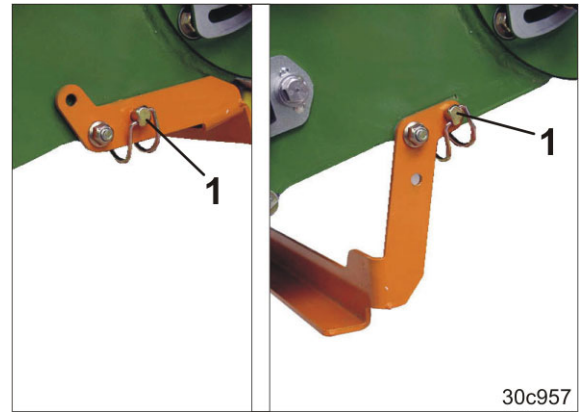

Fig. 240
3. Fold the mount down and secure [linch pin (Fig. 240/1)].